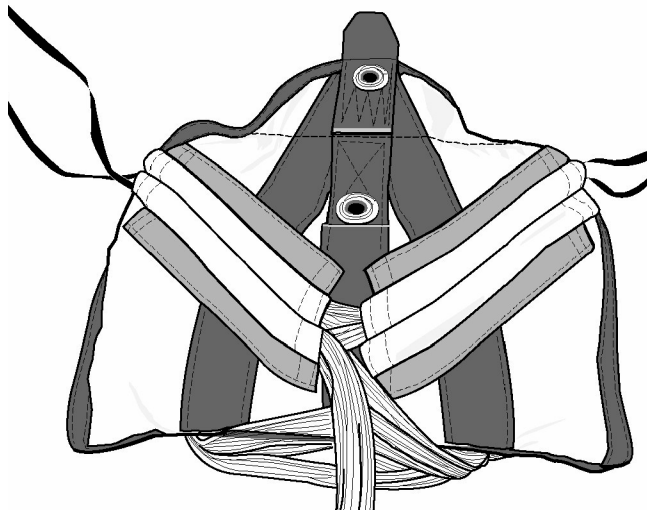

Figure 20. Alternating Stows of Suspension Lines
d. Make alternating stows until finger trapped area of suspension lines are even with the bottom of the deployment bag. Last suspension line group stow may not fill stowage flute (Figures 20 and 21). (QA)